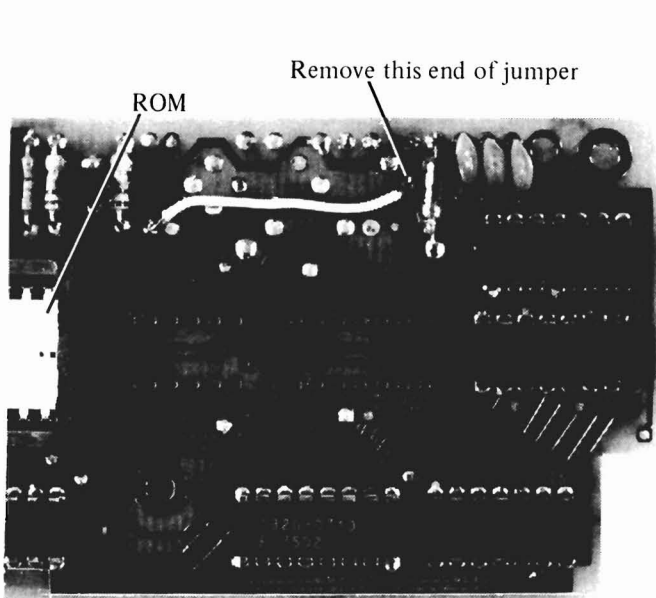
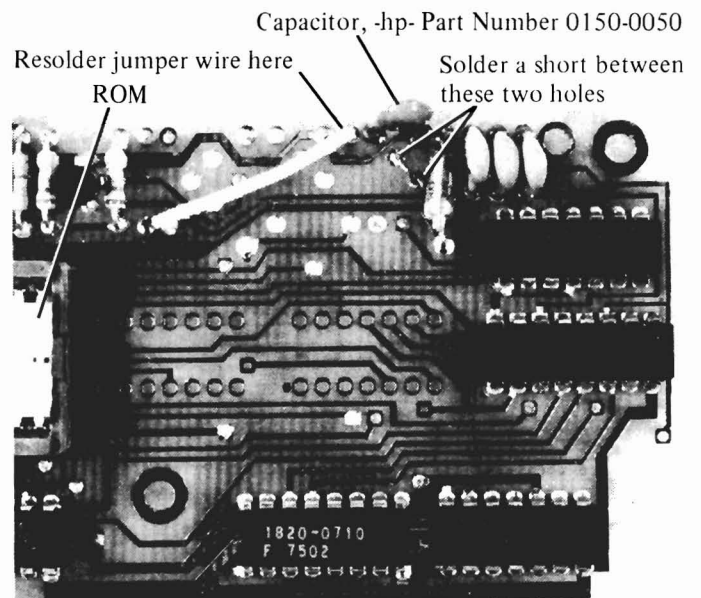

Figure 2. A3 Board Before Modifications.
Figure 3. A3 Board After Modifications.
4. Unsolder end of jumper wire furthest away from white ceramic ROM on the A3 board (see Figure 2). Resolder jumper in the hole indicated in Figure 3.
5. Solder a piece of fine bus wire to short the two holes indicated in Figure 3.
6. Install 0.001 microfarad capacitor (-hp- Part Number 0150-0050) in the holes indicated in Figure 3. (Standoff beads shown in photo are not necessary.)